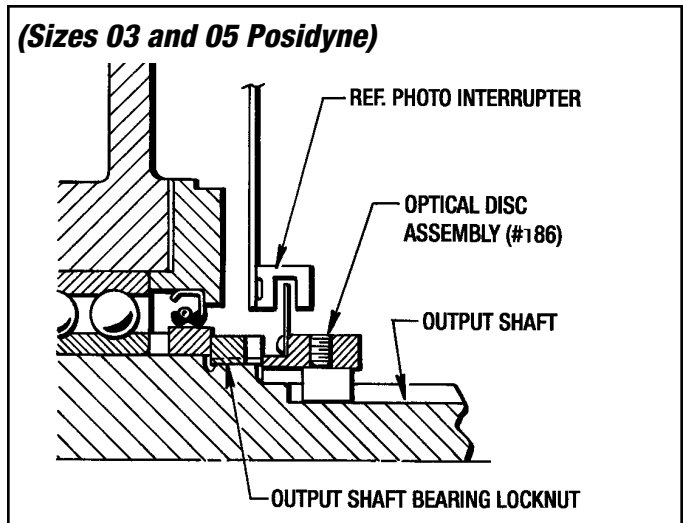

Figure 6.5 - Optical Disc and Hub Positioning (Sizes 03 and 05 Posidyne)
- Slide the Optical Disc Assembly (#186) onto the output shaft until the Optical Disc Hub butts up against the Locknut on the output shaft. (See Figure 6.5)